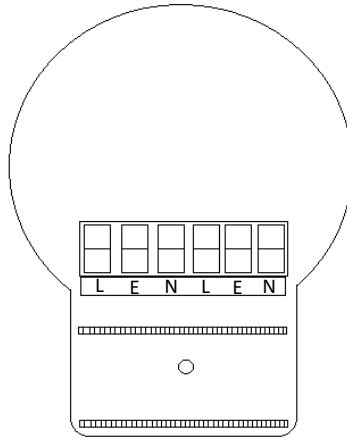

Fig. 3
- Connect the luminaire to the mains supply ensuring that correct polarity is observed: L - Live (brown), E - Earth (green/yellow), N - Neutral (blue) (see Fig. 3)